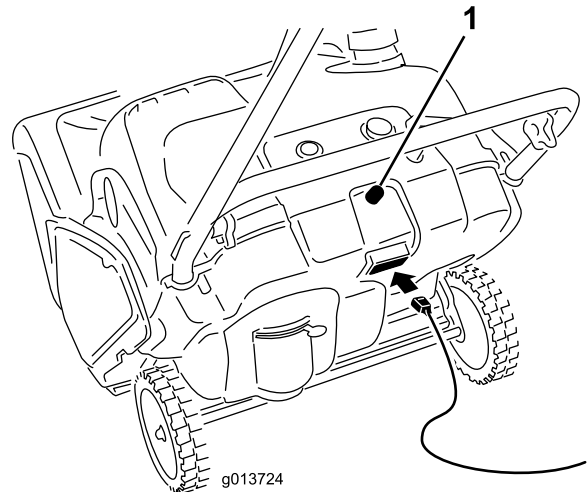
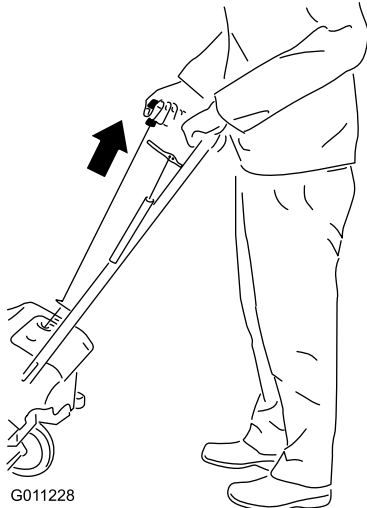

Figure 15
Figure 16
4. Connect a grounded extension cord to a power source and the machine, and push the electric-start button (model 38593 only) (Figure 15), or pull the recoil start handle (Figure 16).